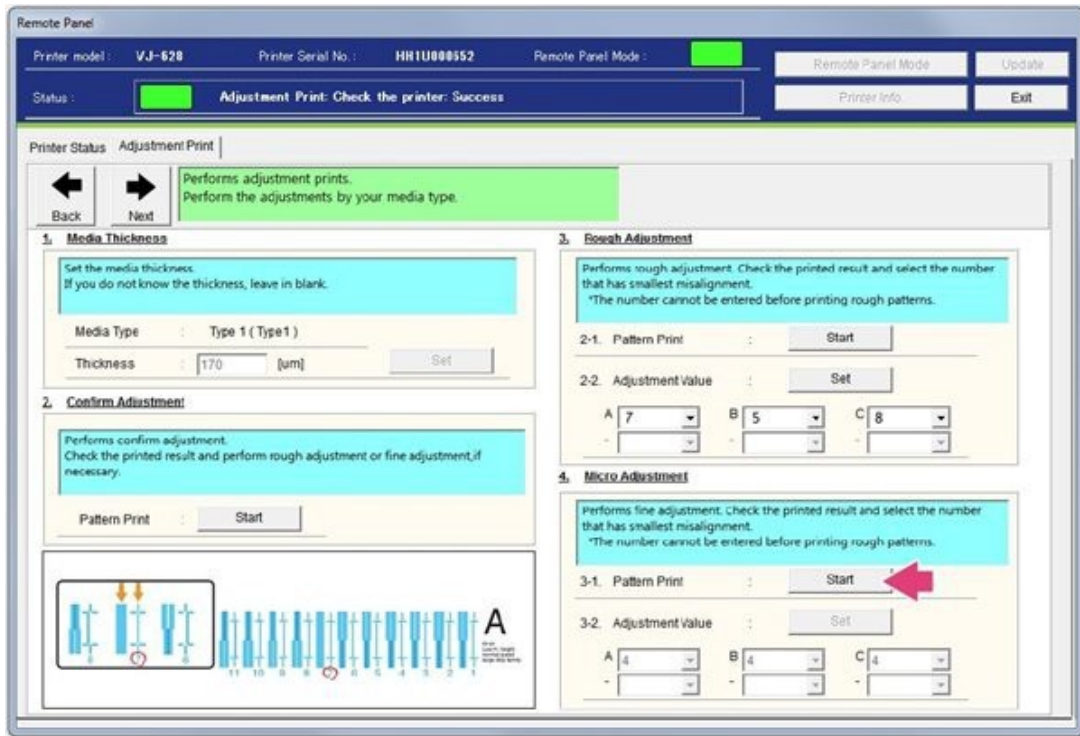

Figure 86
73. You will now perform a Micro Adjustment Pattern Print. Select **Start** to begin. See Figure 86.